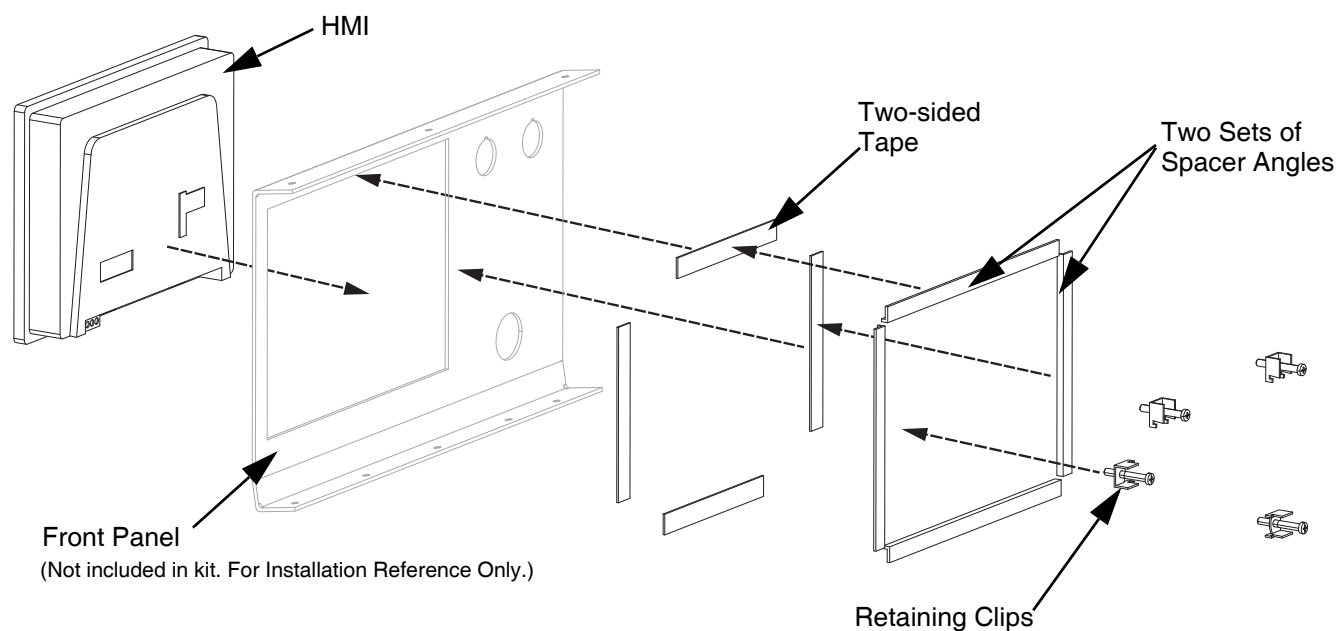

FIG. 7: Attach the HMI to the Front Panel
14. Using the double sided tape, fasten the spacer angles to the inside of the panel. See Figure 7.